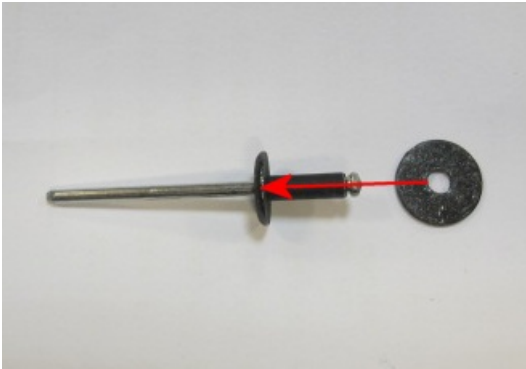

Figure 3
1) Referring to Figure 3 - Install washer NBC 876 865A onto rivet WKN 070 030